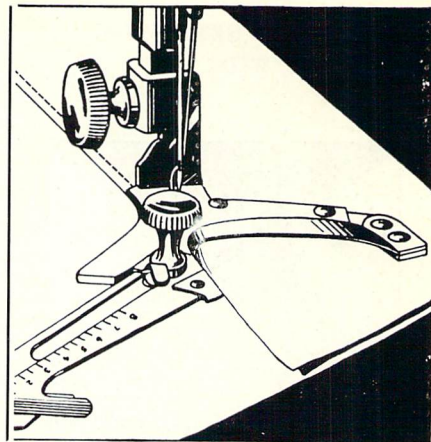

Fig. 46. Showing How Adjustable Hemmer is Used for Making Hems Wider than $\frac{15}{16}$ Inch.
1. Loosen the thumb screw on the hemmer, move the scale to the right as far as it will go, then swing it toward you, as shown in Fig. 46, and tighten the thumb screw.
3. Place the fold under the extension at the right of the hemmer and the edge into the folder, as shown in Fig. 46.